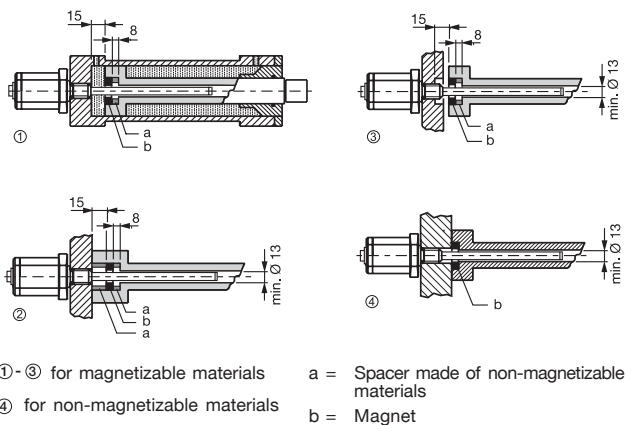

Fig. 3-1: Mounting
When possible, use non-magnetizable material for attaching the transducer and magnet ring. Fig. 3-1.
*When attaching the transducer to magnetizable materials, appropriate measures must be taken to protect against magnetic disturbances (Fig. 3-1). Note the recommended distance of the transducer and cylinder from strong, external magnetic fields.*
When attaching the transducer to magnetizable materials, appropriate measures must be taken to protect against magnetic disturbances, Fig. 3-1.
For mounting the magnet we recommend to use non-magnetizable material. Fig. 3-1.